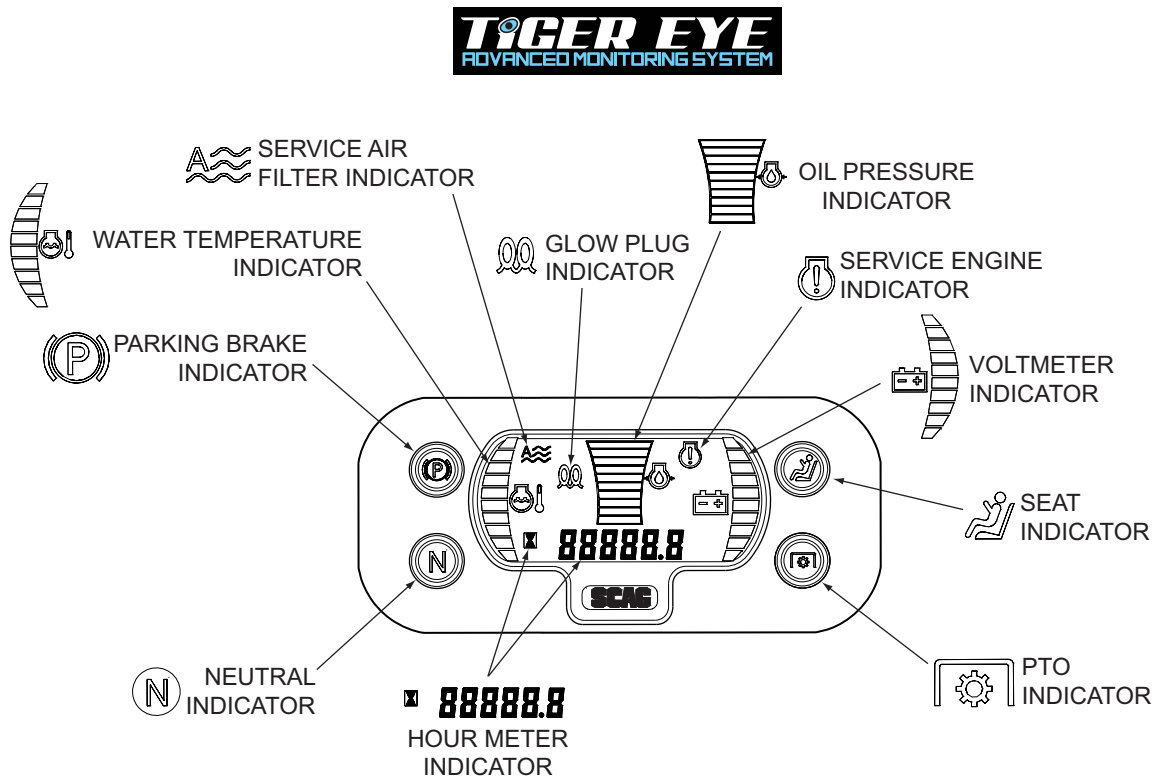

Figure 4-1. Tiger Eye Advanced Monitoring System
1. **Service Air Filter Indicator (Figure 4-1). Optional Accessory.** Indicates the condition of the engine air filter. Icon will display when it is time to change the air filter.
2. **Glow Plug Indicator (Figure 4-1). Used on Diesel Powered Units Only.** Indicator turns on when the key switch is turned to the PREHEAT position. Glow plugs must be preheated for 5 to 10 seconds before starting the engine.
3. **Oil Pressure Indicator (Figure 4-1). Used on Diesel Powered Units Only.** Indicates engine oil pressure. Reference the engine operator's manual for further information.
4. **Service Engine Indicator (Figure 4-1).** Indicates the maintenance reminder for the engine oil change. Has preset maintenance reminder and will start flashing scheduled maintenance 2 hours before preset time and continue flashing until 2 hours after. Automatically resets.
5. **Voltmeter Indicator (Figure 4-1).** Indicates the condition of the charging system. When the engine is running, in normal operating conditions, the bar graph should be in the 12 to 14 volt range.
6. **Seat Indicator (Figure 4-1).** Light will illuminate when the operator is in the seat engaging the seat switch.
7. **PTO Indicator (Figure 4-1).** Light will illuminate when the PTO (mower deck) switch is in the OFF position.
8. **Hour meter Indicator (Figure 4-1).** Indicates the number of hours the engine has been operated. It only operates when the engine is running. Will start flashing with the Service Engine Indicator at scheduled maintenance 2 hours before preset time and continue flashing until 2 hours after. Automatically resets.
9. **Neutral Indicator (Figure 4-1).** Light will illuminate when the steering control levers are in the neutral lock position.
10. **Park Brake Indicator (Figure 4-1).** Light will illuminate when the park brake is in the engaged (ON) position.
11. **Water Temperature Indicator (Figure 4-1). Used on Liquid Cooled Models Only.** Indicates the operating temperature of the engine. If the engine temperature exceeds the maximum preset value, the indicator will flash and the Park Brake, PTO, Seat and Neutral indicator lights will flash in an alternating pattern.